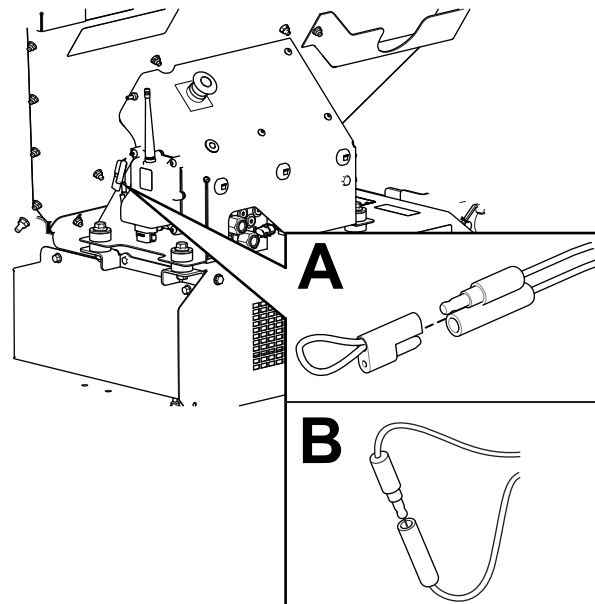

Figure 63
2. Pull the tethered cap off the 2 diagnostic shunt connectors (Figure 63, A).
3. Connect the diagnostic shunt connectors together (Figure 63, B).
2. Disconnect the diagnostic shunt connectors (Figure 63, B).
3. Push the tethered cap onto the 2 diagnostic shunt connectors (Figure 63, A).